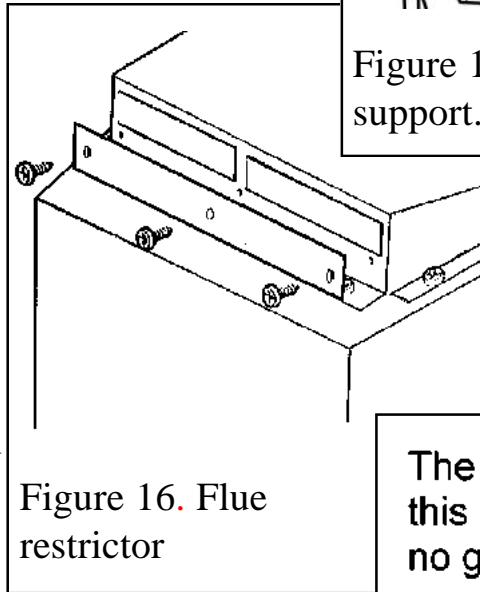

Figure 16. Flue restrictor
10. The restrictor is packed loose with the appliance and is fixed with three screws (See figure 16).